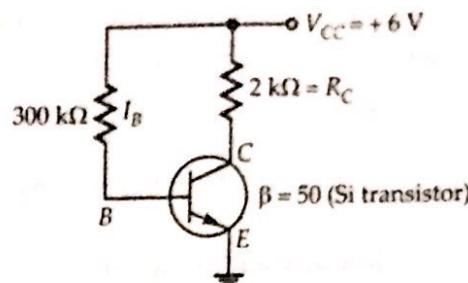

Figure 5.30 Fixed bias circuit
**Example 5.13** From Fig. 5.30, determine collector current and collector to emitter voltage.